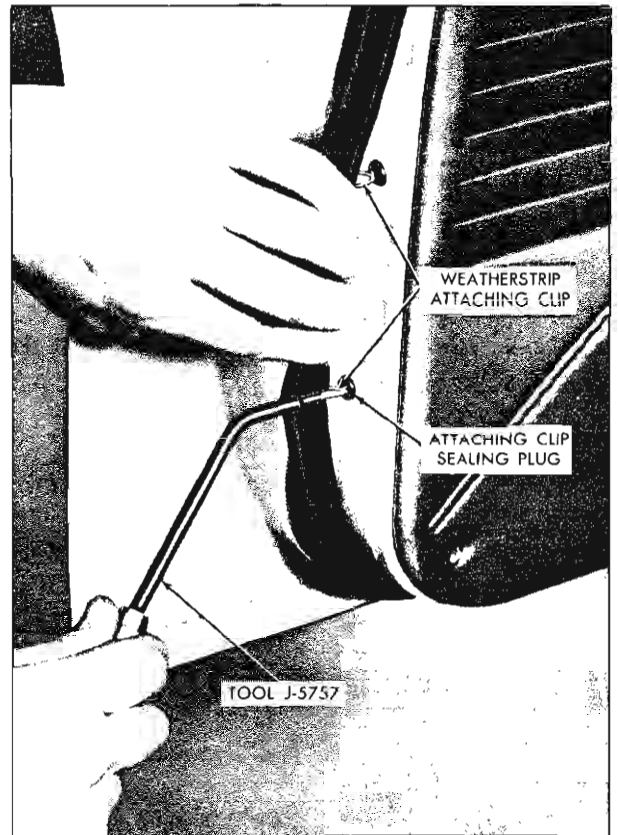

Fig. 3-32 Using Tool J-5757
4. Insert tip of tool J-5757, or any other suitable tool, at retaining clip locations and carefully snap clips from sealing plugs (see Fig. 3-32).
4. Beginning at either front or rear section of door, install snap fasteners. Install weatherstrip attaching clips into their respective sealing plugs by placing notched end of tool J-5757 into loop of wire clip and pushing clip into sealing plug (see Fig. 3-32).
1. Insert tip of mechanically retained weatherstrip inserting tool J-5757, or other suitable tool, at clip locations and carefully snap clips from sealing plugs (see Fig. 3-32).
5. Install weatherstrip into door upper frame by inserting tool J-5757 into loop of wire clips and pushing clips into their respective piercings (see Fig. 3-32).
7. Install weatherstrip into attaching clip sealing plugs by installing tool J-5757 into loop of wire clips and pushing clips into their respective plugs (see Fig. 3-32).